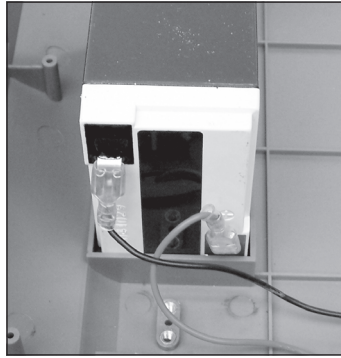

Figure 4-19. Battery Connections.
2. Disconnect the two wires from the battery. See Figure 4-19 which is a close-up view of the battery.